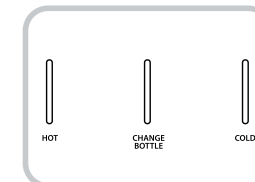

Fig.3
6. Turn ON the hot water switch, wait a couple minutes and turn ON the cold water switch. Allow the unit to reach the minimum cold and hot water temperatures. This will take approximately 35 to 45 minutes and the indicator lights will turn OFF. (Fig. 3)